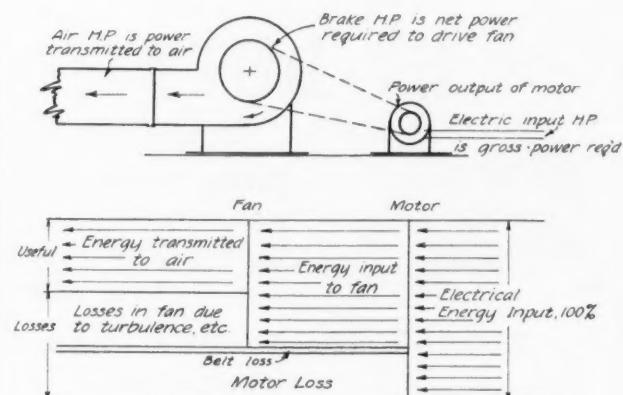

Fig. 5—Diagram showing energy conversions for fan and motor.
connection, it should be noted that three distinct items for horse-power ratings are available, as follows: (See diagram in Fig. 5.)
(3) The "air horse-power" as may be noted from Fig. 5 is a measure of the rate of energy transmission to the air and is the final outcome of all the energy transformations involved in the process. Numerically the "air horse-power" may be derived by the substitution of the proper values in the following equation: